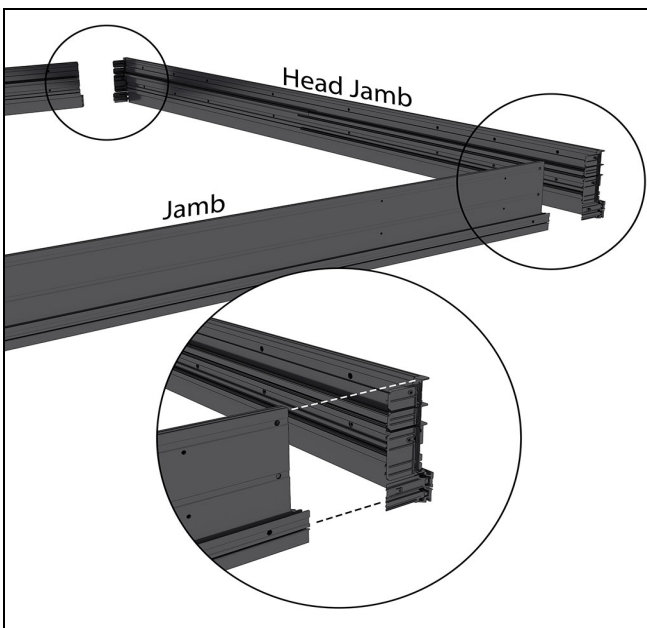

Figure 23
5. Slide the jambs over the head jamb corner keys until the exterior miters are tight. See Figure 23.